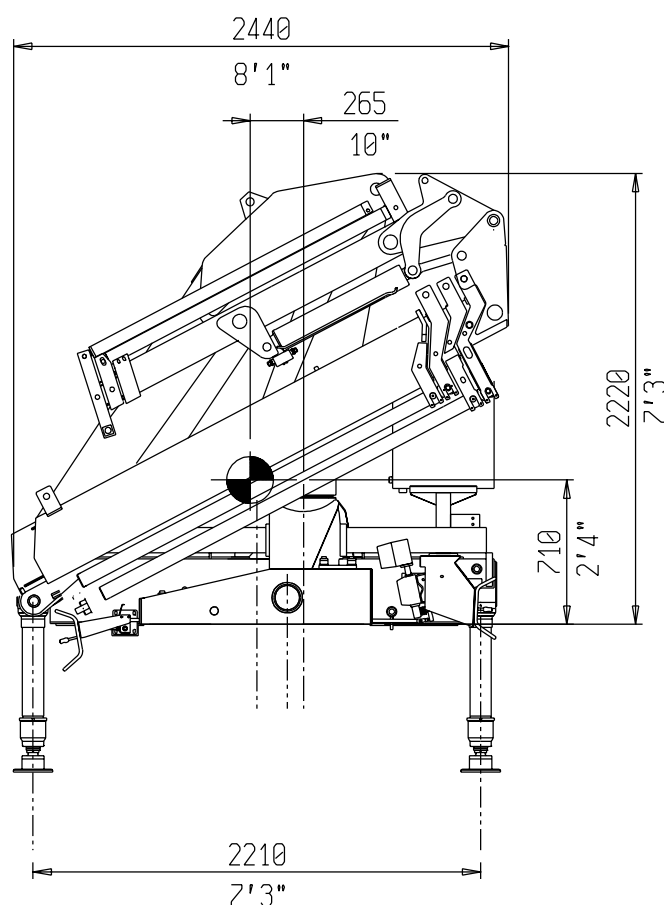

Fig.6-5
6.6 ANTENNA J12 PER 14023 (Fig. 6.5)
6.6 J12 JIB FOR PM 14023 (Fig. 6.5)